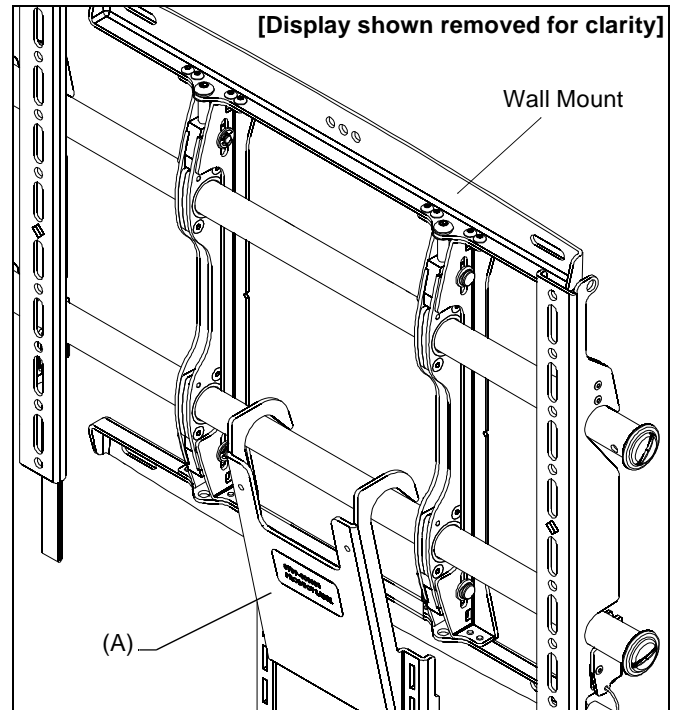

Figure 2
2. From below and behind the display, raise and hang upper hook bracket (A) onto wall mount rail. (See Figure 2)